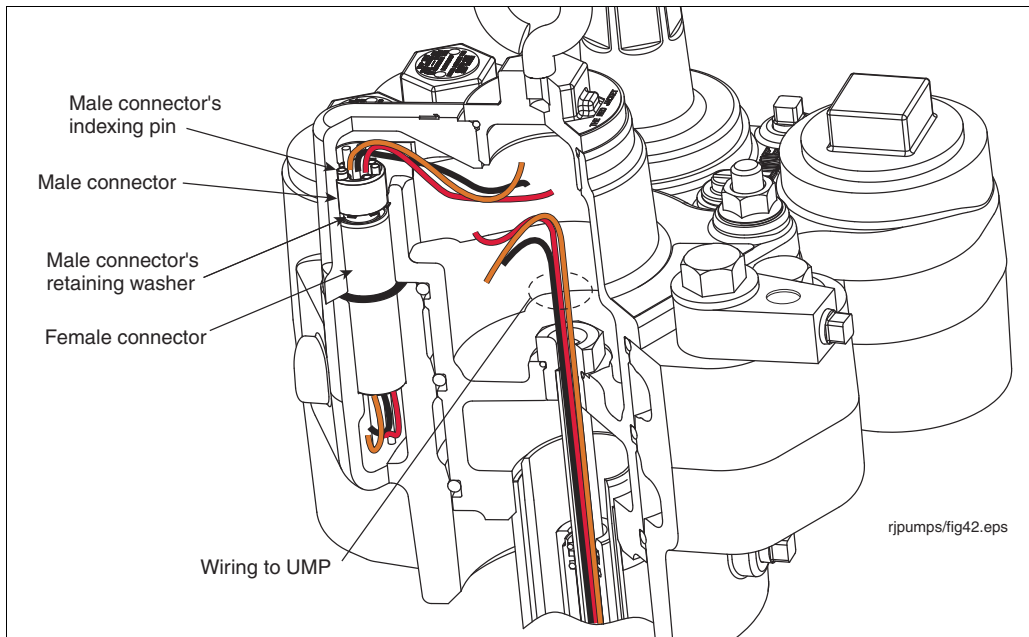

Figure 36. Packer-To-Manifold Wiring Connectors
5. Locate the male connector inside the packer (see Figure 36).
22. Remove the manifold's female connector's o-ring. Get the 0.862" ID x 0.103" wide o-ring from the connector kit and lubricate it with petroleum jelly. Insert this o-ring in its groove in the manifold around the female connector (see Figure 36 on page 58).